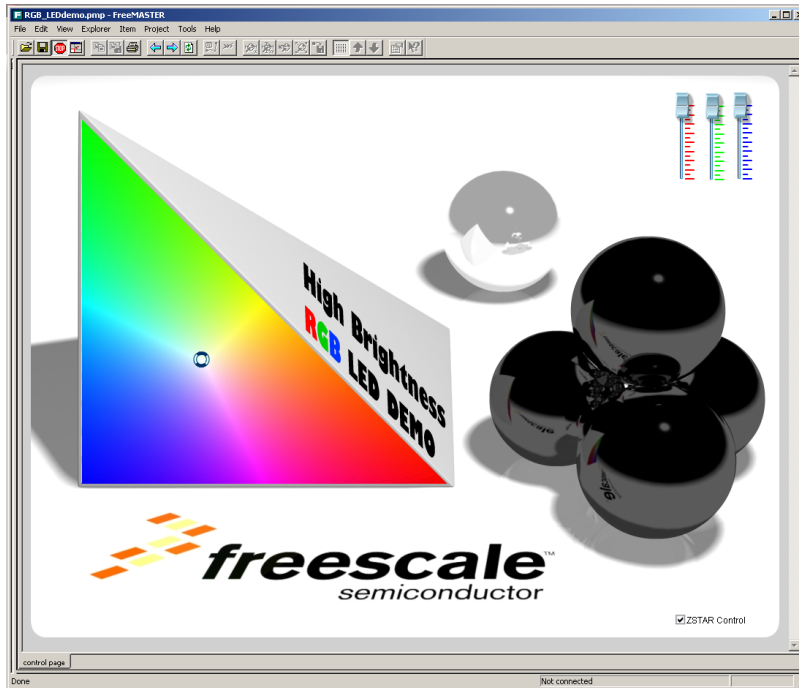

Figure 6-4. FreeMASTER Graphical User Interface Startup Window
- It is now time to run the graphical user interface program, RGB\_LEDdemo.pmp, on the PC. On startup, the interface should look like Figure 6-4. To run the GUI properly, see section FreeMASTER GUI.